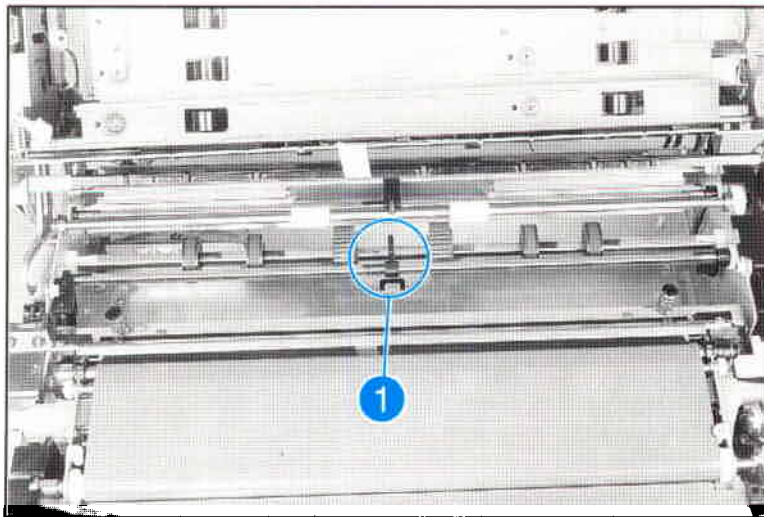

Figure 7-2 Paper-Out Photosensor (PS8)
The 11.4 FRONT TRAY EMPTY message indicates the Paper-Out photosensor (PS8) senses an empty tray. If paper is in the tray, the sensor arm may be stuck or broken. PS8 is shown in Figure 7-2, item 1.